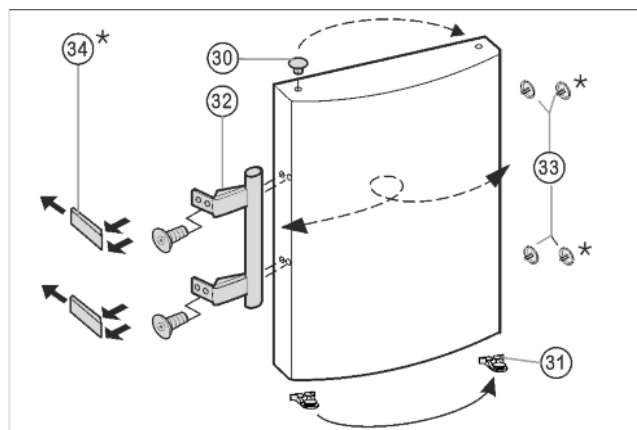

Fig. 7
- Lift the stopper Fig. 7 (33) out of the door bearing bush and transfer it.
- Dismantle the door handle Fig. 7 (32), stoppers Fig. 7 (33) and pressure plates\* Fig. 7 (34) and transfer to the opposite side.